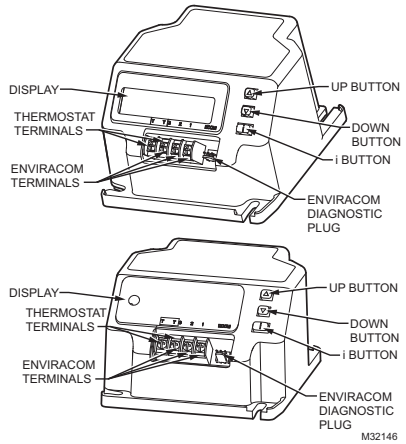

Fig. 2. R7284 terminals, connectors, LED, reset button and DIP switch locations.
2. Before mounting the control, make line voltage connections as shown in Fig. 2 through 10. Splice lines with solderless connectors. Do not exceed load ratings shown on the device label.
3. After mounting make low voltage connections to the screw terminals (see Fig. 2 through 10).